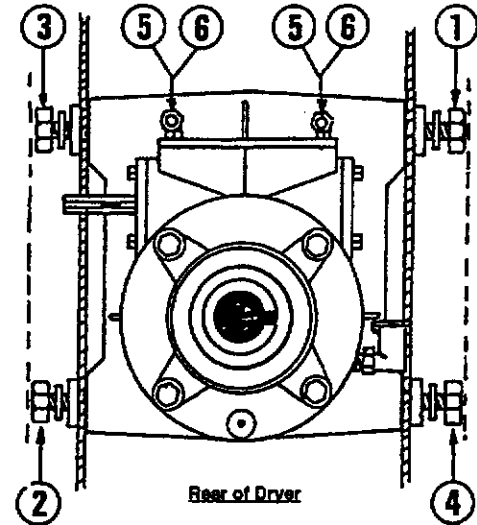

FIG. 3
- Step 1** Loosen the 4 gear reducer mounting bolts (1, 2, 3, & 4) on rear of dryer, and 2 adjusting bolts #5, on gear reducer housing. (figure 3)
- Step 3** With the pins in position, tighten the two "5" bolts until flush against back of dryer. Retighten gear reducer mounting bolts in the numerical order indicated in figure 3. Tighten lock nuts "6" to secure bolts "5" in position. Then remove pins.
- Step 2** Loosen the 4 side bolts, "1, 2, 3, 4," on the basket bearing bracket. (see figure 3) Loosen the two adjusting bolts and locknuts "5, 6," inside the bracket. And loosen the bolts "7," on the pillow block bearing.
4. Maximum opening of air switch must be no greater than 3/4" (figure 3). Bend tab "F" in or out to maintain this dimension.